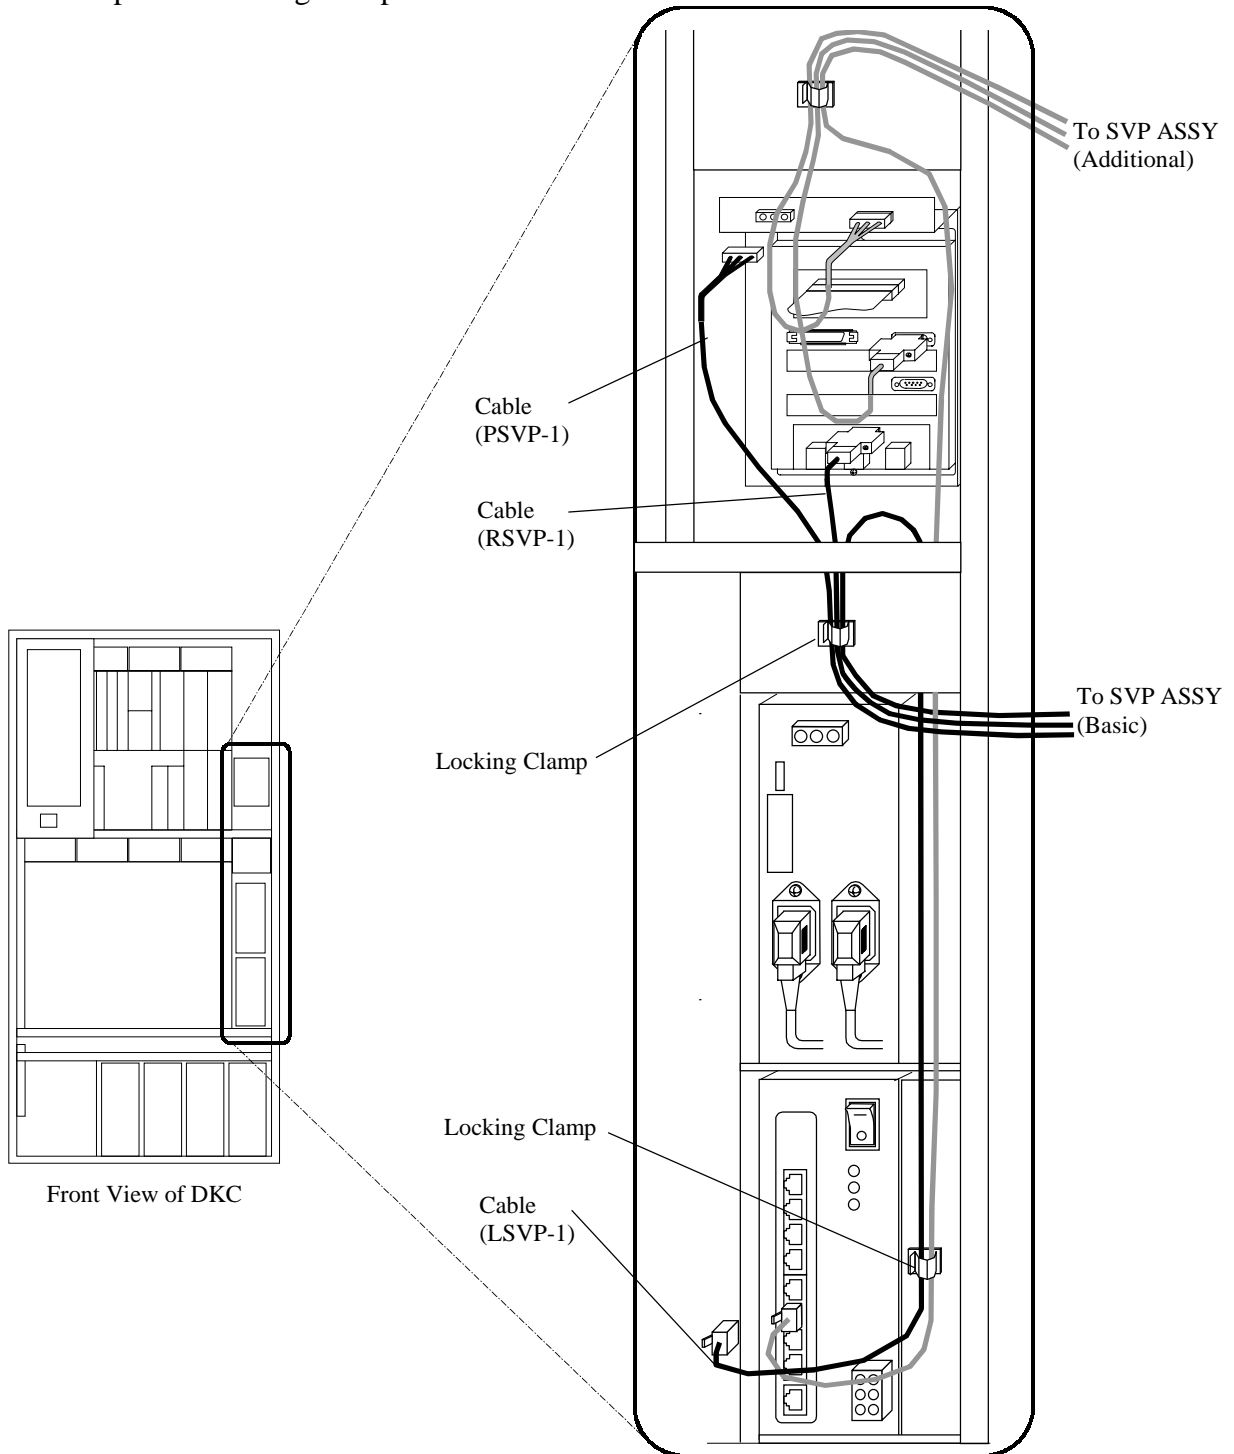

Fig. 3.15-6 Removal of Cables
- Attach the SVP ASSY cables to the RS CON PCB, HUB BOX and CON PLATE. And then close the locking clamps. (See Fig. 3.15-6 and 3.15-9.)